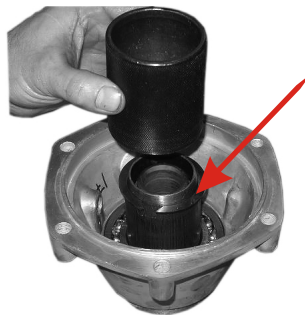

Fig. 78.
- Use a mandrel to press the lock ring onto the splined hub (Fig.78)